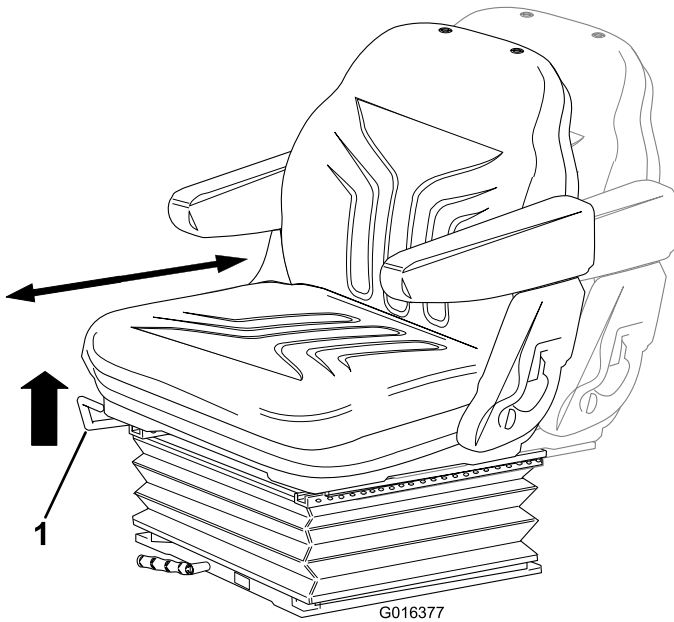

Figure 11
- **Fore/Aft Adjustment:** Move the lever upward to adjust the fore/aft position of the seat. Release the lever to lock the seat in position (Figure 11).